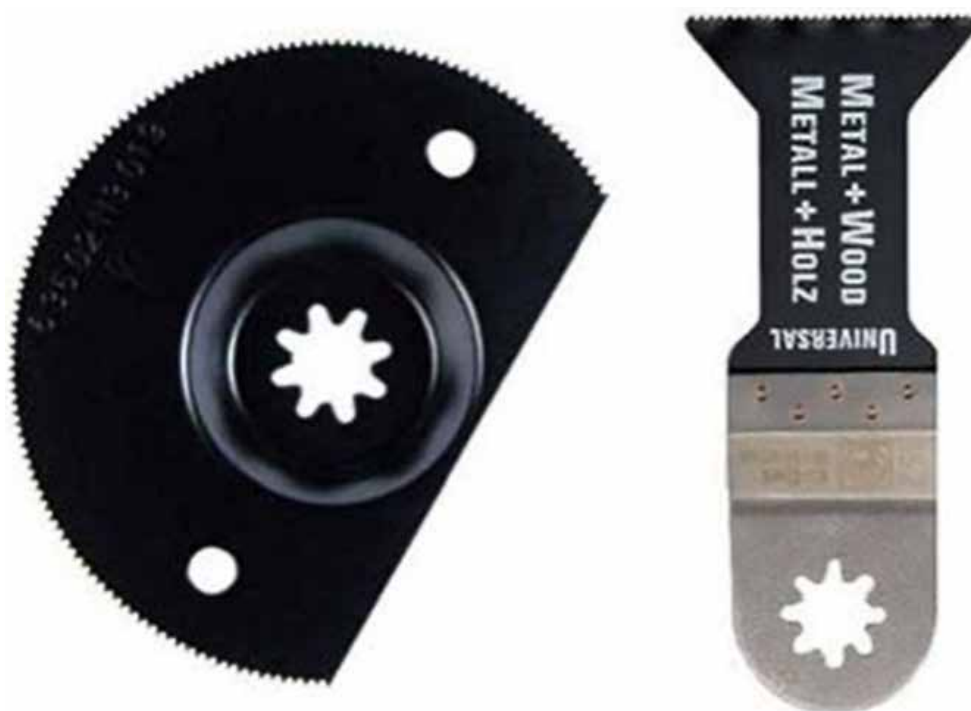

Figure 1: Blade suggestions for vibratory saw cutting of HexTool® material.
- The recommended cutting tool is a vibratory saw. An example is the Fein MultiMaster. Recommended blade styles are shown in Figure 1.